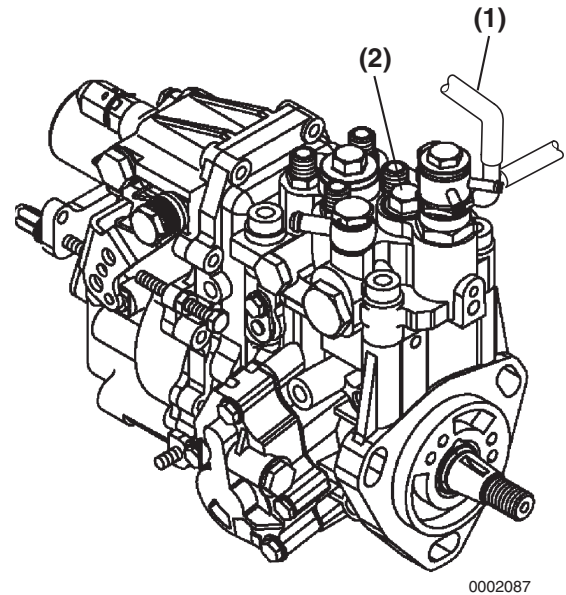

Figure 7-35
- Clamp shut the fuel injection pump fuel return hose leading to fuel filter (**Figure 7-35, (1)**).
- Remove the forward fuel injection pump plunger plug (**Figure 7-35, (2)**) on the top of the fuel injection pump.